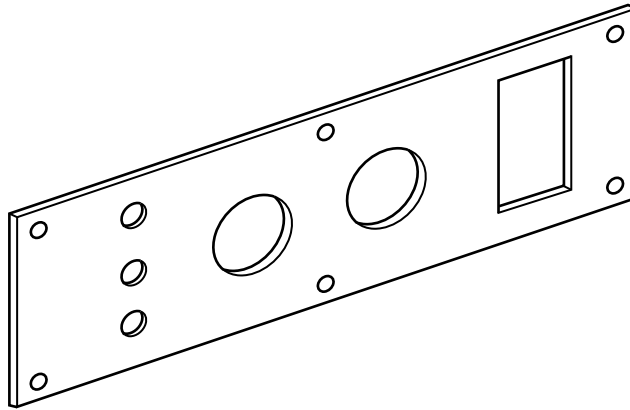

Fig. 1
- 3 Fig. 1 shows a mounting panel for control switches on a machine. The mounting panel is made from 3 mm thick aluminium alloy.
- (b) (i) The mounting panel shown in Fig. 1 is produced on a laser cutting machine. Explain why laser cutting would be used instead of conventional presswork.